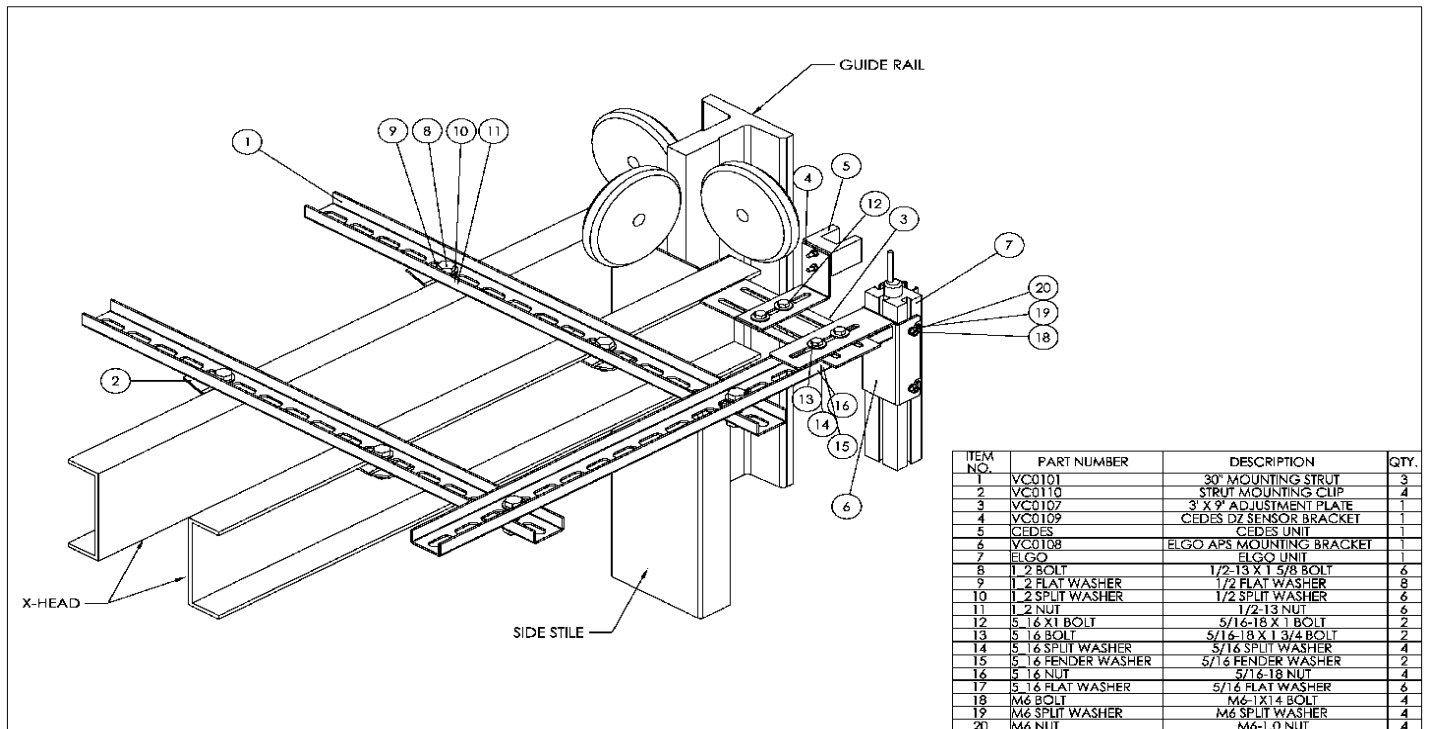

Figure 1: Car Top Landing System Bracket Assembly
See Figures: 1 & 2 below to review Virginia Controls new combination bracket to support both the ELGO Sensor Head and the Vane Sensor for the APS Door Zone System.
1. Install the car top bracket assembly per the diagram below, (Figure 1). Keep in mind that the tape and door zone vanes mount off of the guide rail. A target distance for the Tape to Rail C/L is approximately 14". There is room for adjustment as all equipment varies in size.
2. The "U" shaped vane sensor shall be mounted on the car top per the diagram shown below in (Figure 1). The target distance for the Vane to Rail C/L is approximately 10". Again there is room for adjustment.